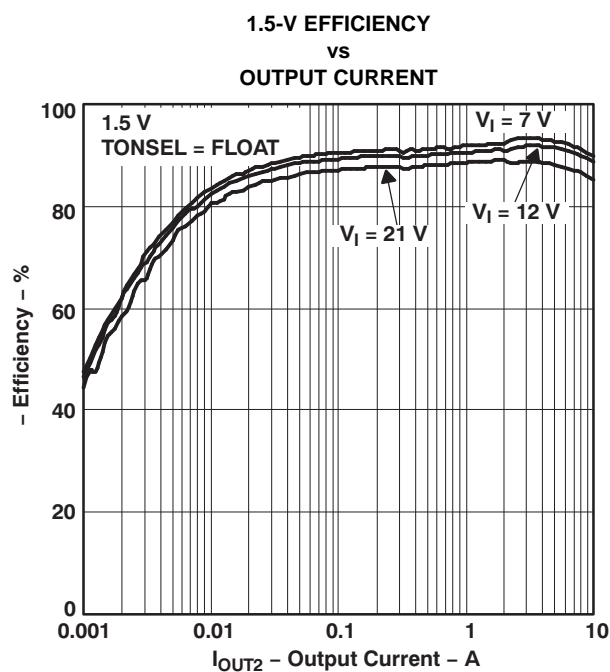

Figure 17. (4)
(4) The data of Figure 17–Figure 20 are measured from the Typical Application Circuit of Figure 25 and Table 2